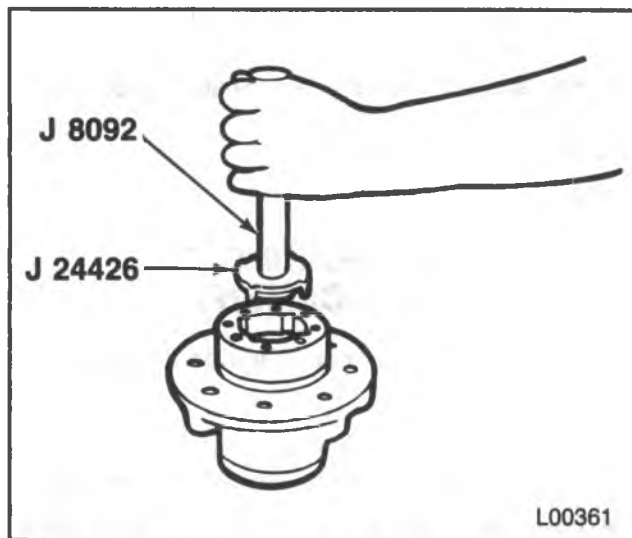

Figure 26 — Removing the Outer Bearing and Cup
1. Axle shaft (52). Refer to "Axle Shaft Replacement" in this section.
- Lay the drum (48) on a flat surface with a shop towel to catch the bearing (46 or 61) and seal (47 or 62).
5. Outer bearing (44 or 59) using J 8092 with J 24426 (figure 26).
- Drive the bearing (44 or 59) and cup from the hub (49).